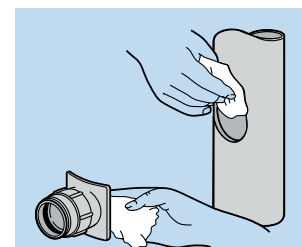

Fig.2
- Remove swarf and clean mating surfaces with Terrain cleaner 9101 (Fig.2).